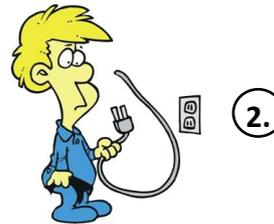

Figure 3:
- Unplug the mains plug to be sure that the instrument is dead (see figure 3).